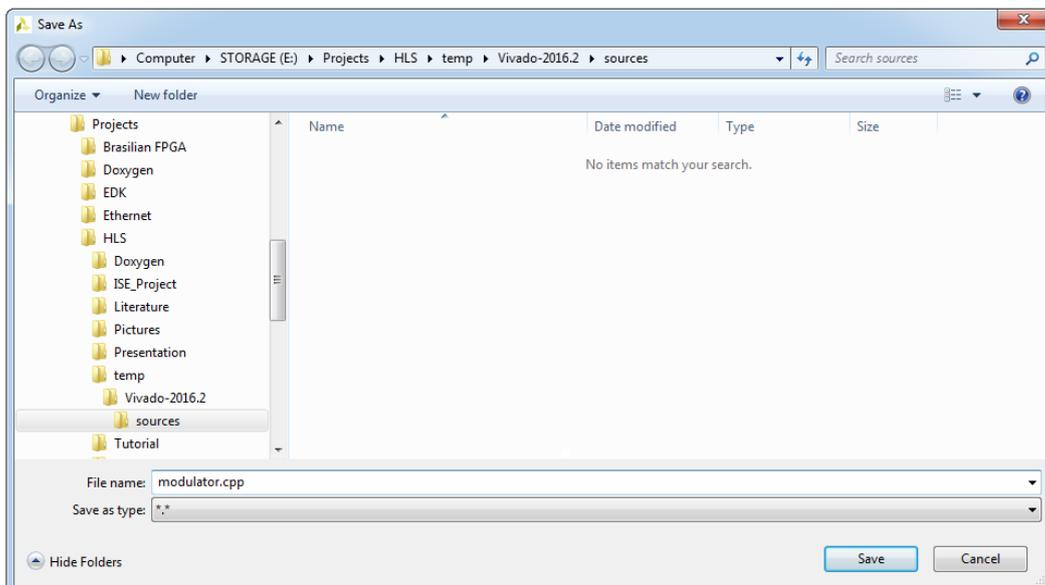

Figure 2.4: Save As dialog box
- Click **New File...** button and in the **Save As** dialog box specify **modulator.cpp** as a new file name in the **File name** field and click **Save**, see Figure 2.4